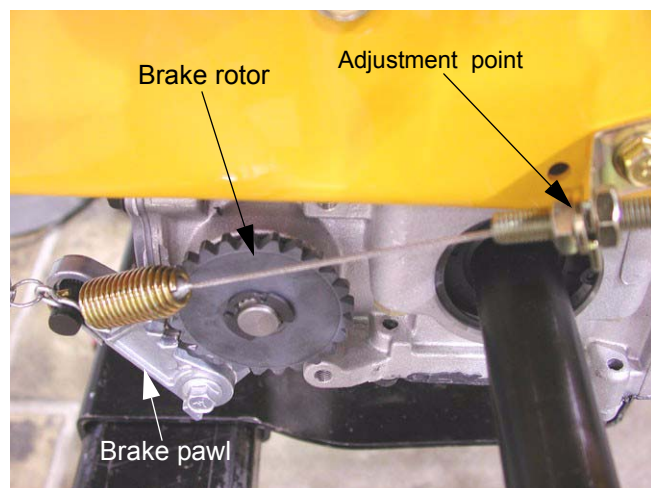

Figure 8.8
- 8.8. Prior to adjustment, check the brake pawls and rotors. See Figure 8.8.